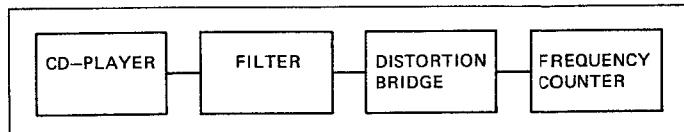

Fig. 4.20
- Measuring circuit according to Fig. 4.20 with distortion measurement filter on the VARIABLE OUTPUT [2].